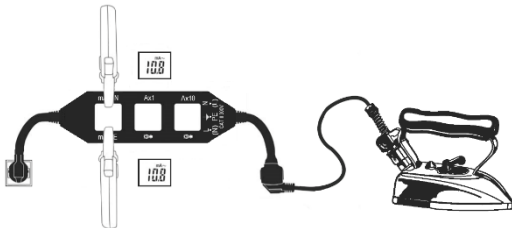

Fig. 3
4. Read off the direct stray current value (PE conductor) in the mA-PE ring or the indirect/differential stray current value (L-N conductor) in the mA-L-N ring (see Fig. 3).